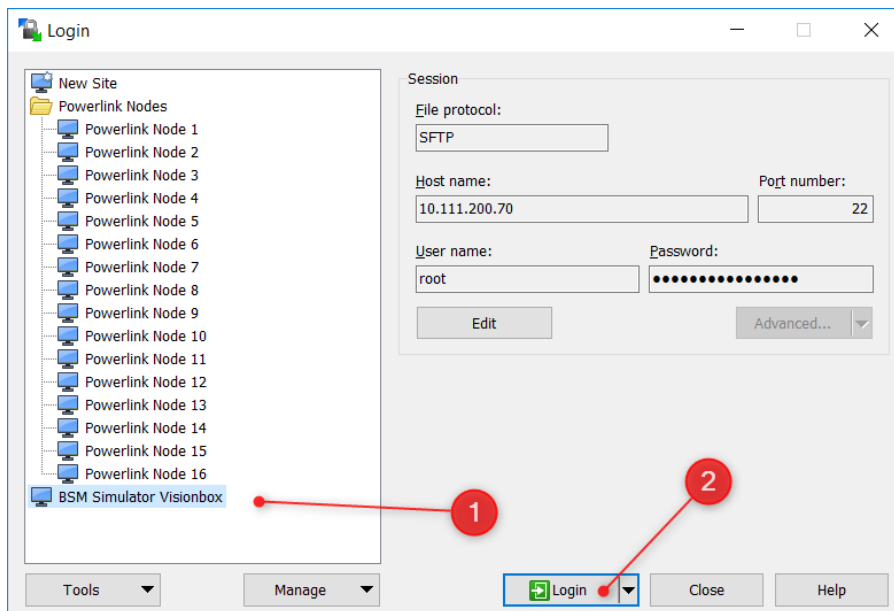

Figure 23: WinSCP login screen
Use WinSCP (chapter 12.2) to connect to the BSM VisionBox. On the login screen (Figure 23) select the BSM VisionBox site (1) and do a Login (2).